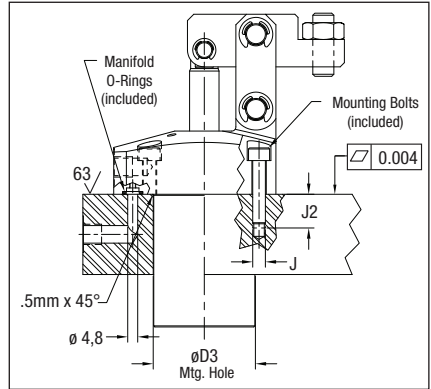

Figure 6
The Enerpac 70 bar link clamp features a 4 bolt flange style body for mounting the cylinder to the fixture plate. Mounting bolts of the proper size and length are supplied. Flange mounting requires the machining of a through hole in the fixture plate or mounting block and threads for the four (4) mounting bolts. (See Figure 6 and Table 1).
After installing O-rings, install the clamp as described in section 3.3 (See Figure 6).